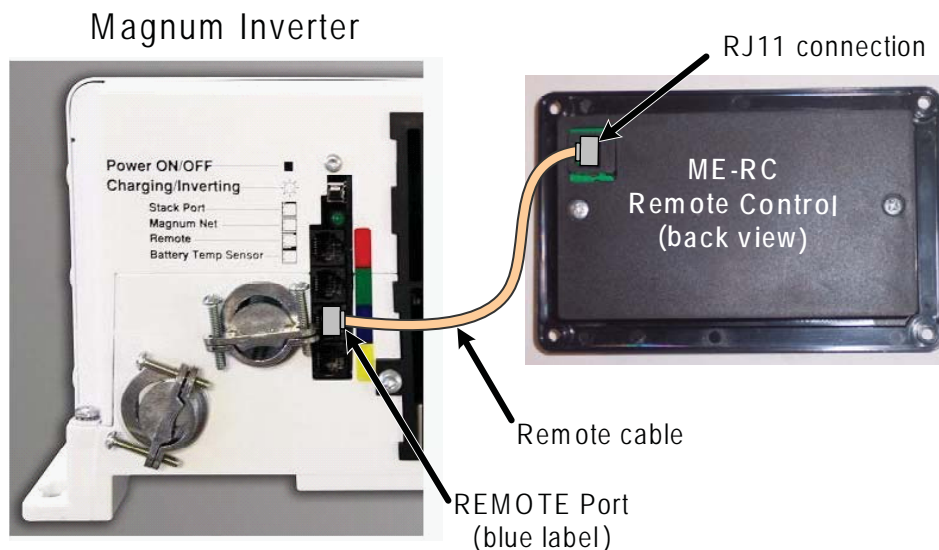

Figure 2-2, Remote Control Connections
4. Connect the remote cable into the RJ11 "Remote" port (has dark blue label) on the inverter/charger (see figure 2-2).
6. While monitoring the front of the remote, connect the other end of the cable into the RJ11 jack on the back-side of the remote (see figure 2-2).